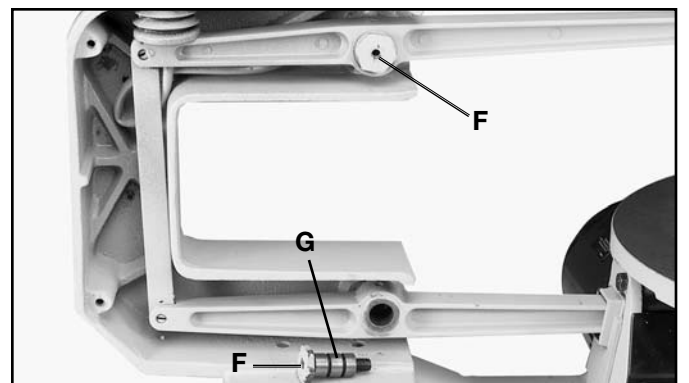

Fig. 43
5. Remove two pivot bolts (F) Fig. 43.
6. Thoroughly clean grease from shafts (G) Fig. 43, of both pivot bolts (F) and lubricate shafts (G) with a few drops of light machine oil.
7. Reassemble two pivot bolts (F) Fig. 43, to machine.